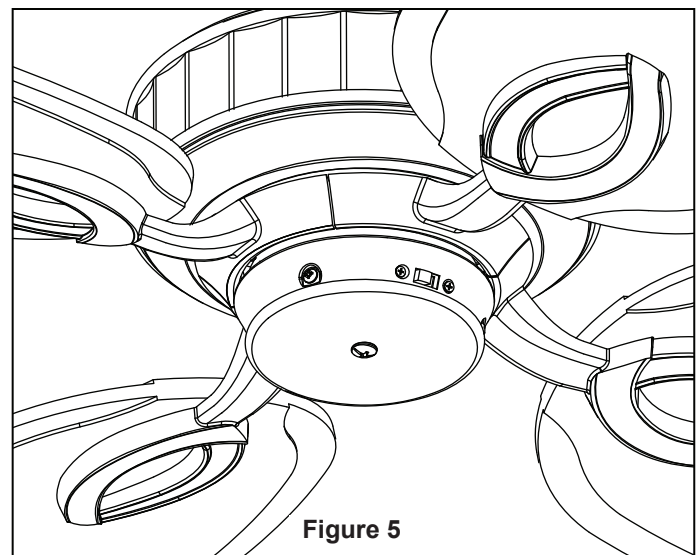

Figure 5
10. Assemble the Housing Switch Cup onto the assembled Adapter with three screws. (Figure 5)